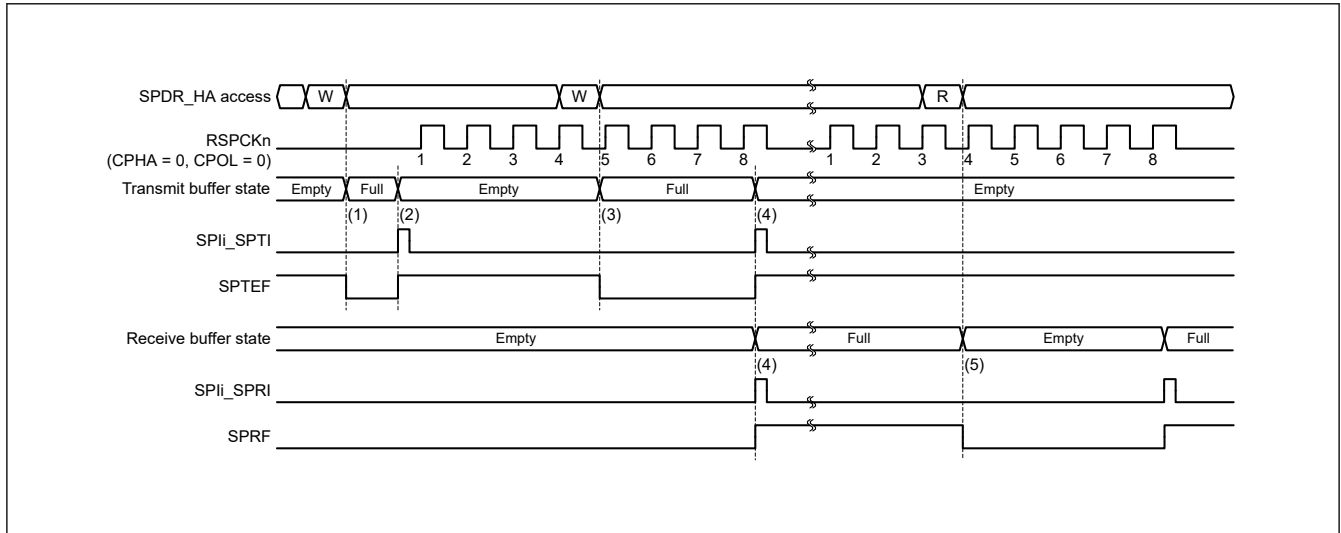
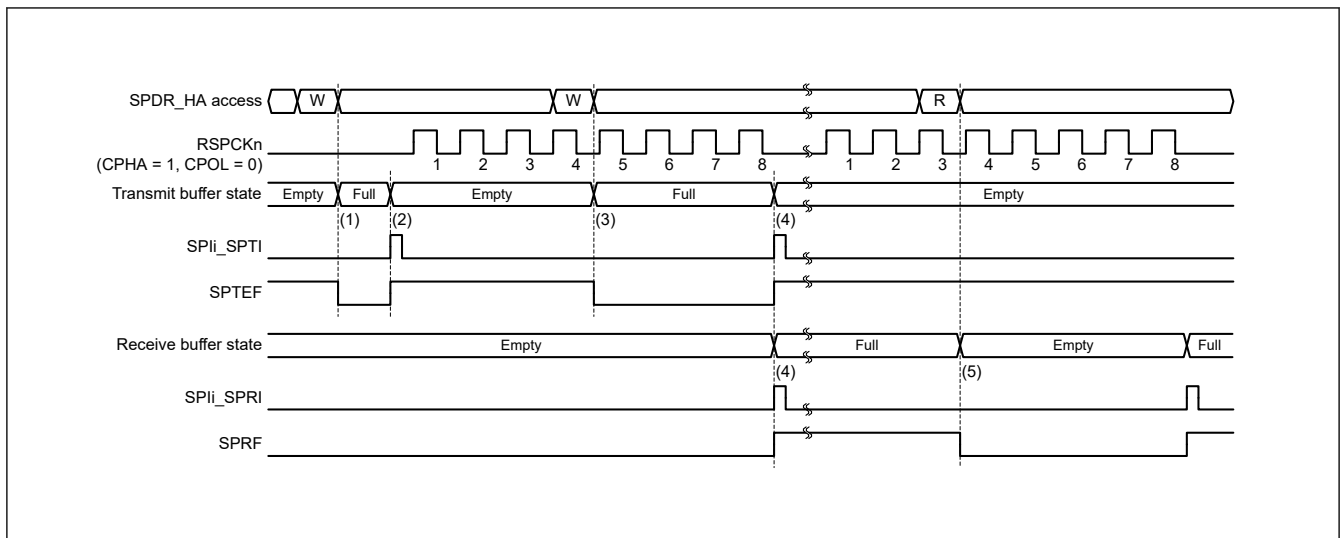

Figure 26.24 Operation example of the SPIi_SPTI and SPIi_SPRI interrupts when CPHA = 0 and CPOL = 0 in master mode
Figure 26.25 Operation example of the SPIi_SPTI and SPIi_SPRI interrupts when CPHA = 1 and CPOL = 0 in master mode
Figure 26.24 and Figure 26.25 show examples of operation of the transmit buffer empty interrupt (SPIi_SPTI) and the receive buffer full interrupt (SPIi_SPRI). The SPDR_HA register accesses shown in these figures indicate the conditions of access to the register, where W denotes a write cycle and R a read cycle. In Figure 26.24, the SPI performs an 8-bit serial transfer when SPCR.TXMD bit is 0, the SPCMD0.CPHA bit is 0, and the SPCMD0.CPOL bit is 0. In Figure 26.25, the SPI performs an 8-bit serial transfer when SPCR.TXMD bit is 0, the SPCMD0.CPHA bit is 1, and the SPCMD0.CPOL bit is 0.
The operation of the SPI at timings (1) to (5) in Figure 26.24 and Figure 26.25 is as follows: